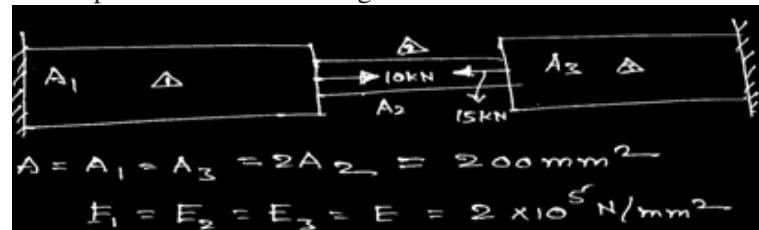

Fig: 1
- Consider a stepped bar as shown in Fig. 1. Write Global Stiffness matrix?